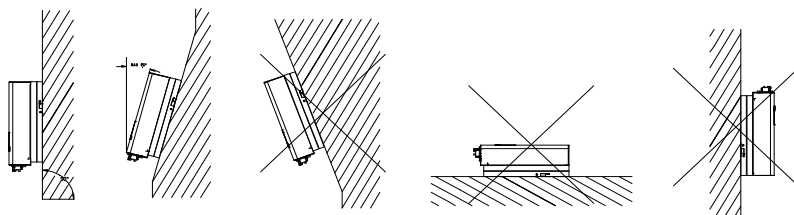

Figure 4.1 Mounting Method
(2)Please install the equipment under the guidance of Figure4.1. Vertical installation on floor level is recommended. Mount vertically or tilted backwards by max.  $15^{\circ}$  . Never install the inverter tilted forwards, sideways, horizontally or upside down.
(3) Install the inverter at eye level for convenience when checking the LCD display and possible maintenance activities.